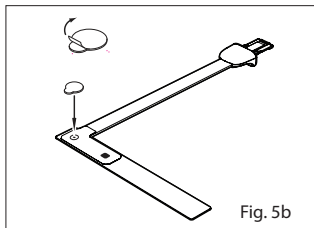

Fig. 5b
2. Refer to Fig. 5b. Place an adhesive tab over each window of the sensor with the white area outside the adhesive area as shown, remove the protective paper that covers each tab and reapply the sensor to the same patient.